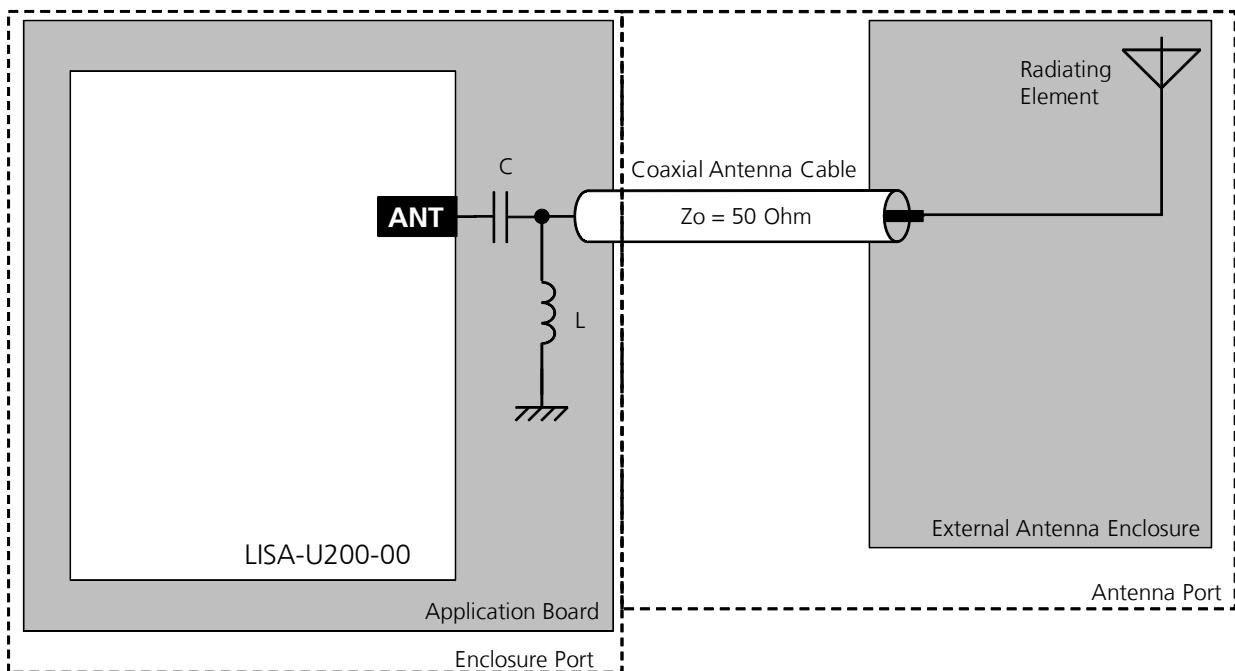

Figure 68: LISA-U200-00 antenna port ESD immunity protection application circuit
- If the device implements an external antenna and the antenna and its connecting cable don't provide a completely insulated enclosure able to provide protection to direct contact discharge up to +4 kV / -4 kV and protection to air discharge up to +8 kV / -8 kV to the whole antenna and cable surfaces, an external high pass filter, consisting of a series 15 pF capacitor (Murata GRM1555C1H150JA01) and a shunt 39 nH coil (Murata LQG15HN39NJ102) should be implemented at the antenna port as described in Figure 68
Antenna detection functionality is not provided when implementing the high pass filter described in Figure 68 and Table 49, as ESD protection for the LISA-U200-00 antenna port.